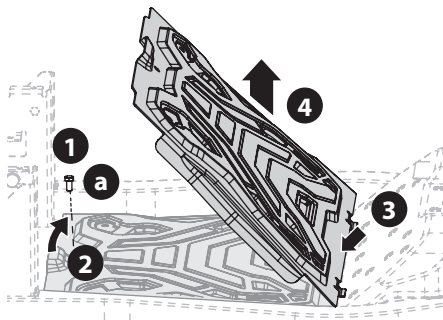

Figure 32
1. Using the multi-tool (if equipped) or a 1/2" socket, remove the hex screw (a) that secures the floor panel in place (Figure 32).